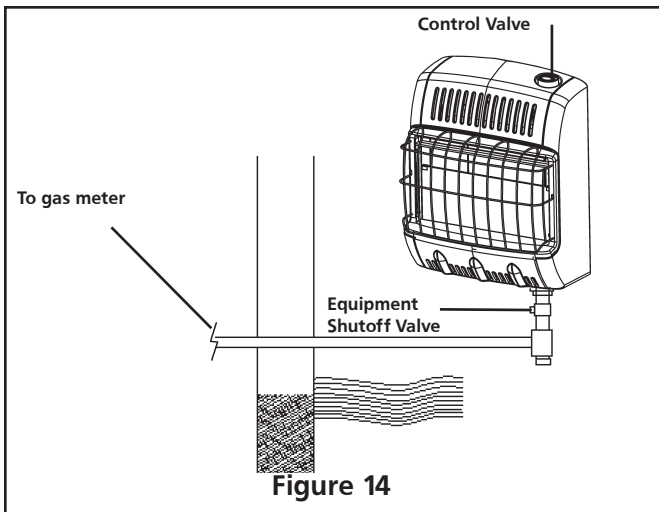

Figure 14
3. Check all joints and joints in gas supply piping system (see figure 14). Apply mixture of liquid soap and water to gas joints. Bubbles forming show a leak.
5. Check all joints from equipment shutoff valve to control valve (see figure 14). Apply mixture of liquid soap and water to gas joints. Bubbles forming show a leak.